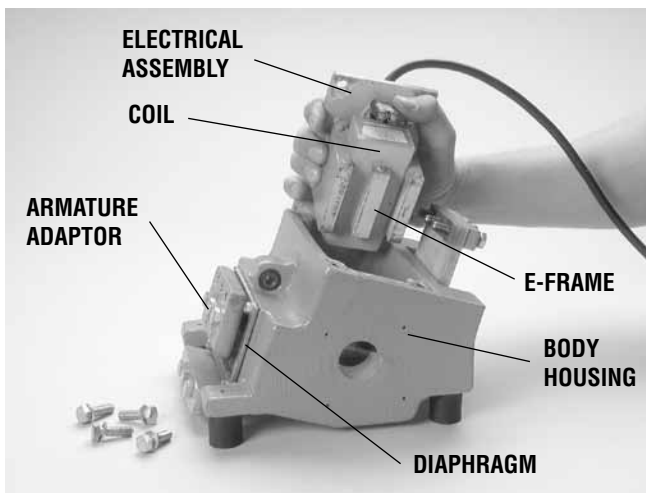

FIGURE 7
- Remove the bolts securing the electrical assembly to the body housing and lift the assembly out of the body housing (see Figure 7).